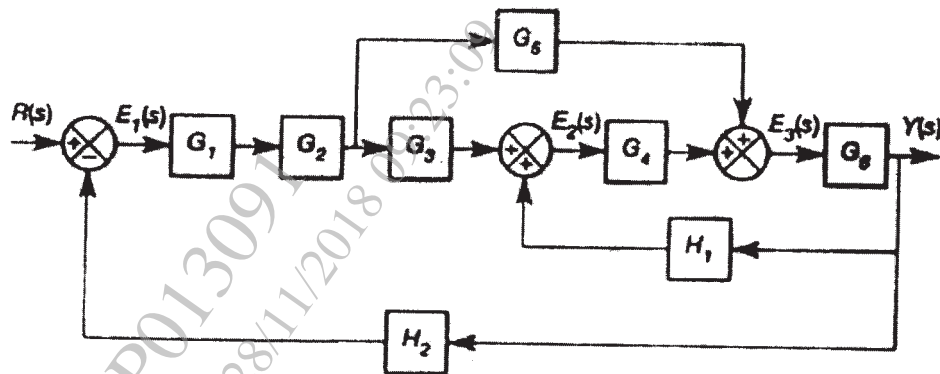

Figure 1
- Q4)** a) Reduce the block diagram in Figure 1 and determine the transfer function: $Y(s)/R(s)$. [8]